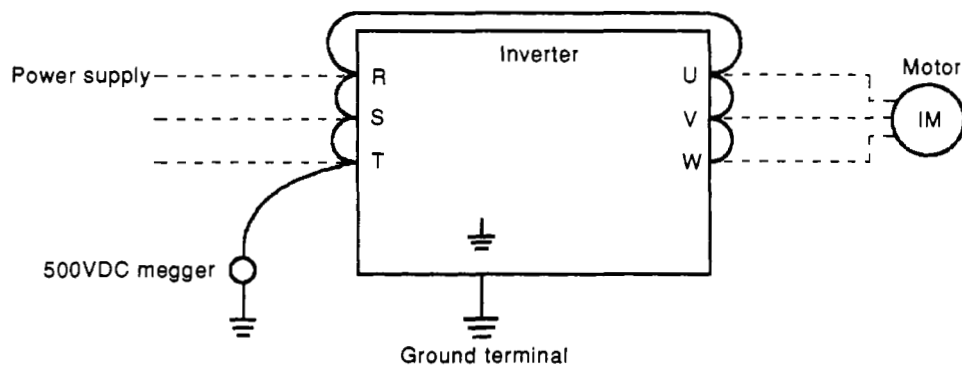

Fig. 7.1 Insulation Resistance Test Using Megger
(3) Insulation resistance test using megger
- (b) For the inverter, conduct the insulation resistance test on the main circuit only as shown in Fig. 7.1 and do not perform the test on the control circuit. (Use a 500VDC megger.)